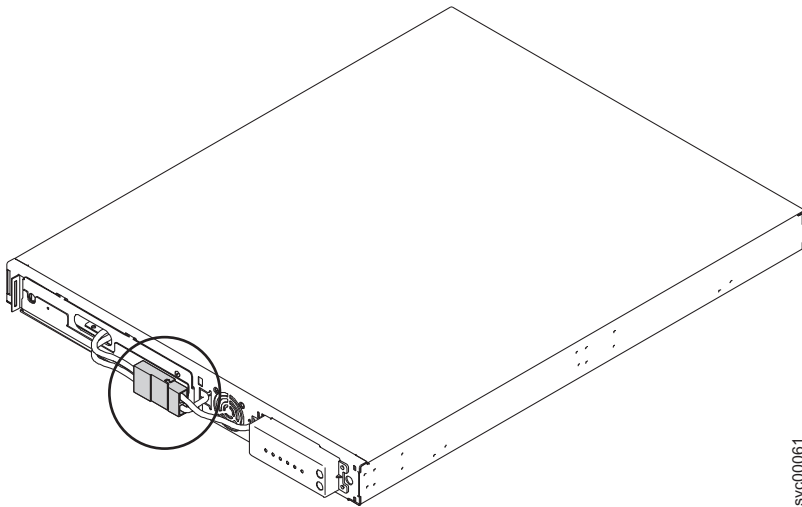

Figure 15. The 2145 UPS-1U internal-battery connector
5. Connect the internal battery connector (shown in Figure 15 on page 20). Each end of the keyed connector has two wires: one red (+) and one black (-). Align the connector so that the two red wires are joined together and the two black wires are joined together.